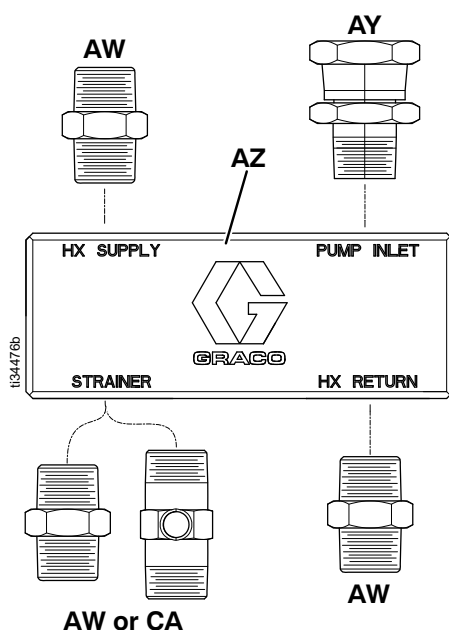
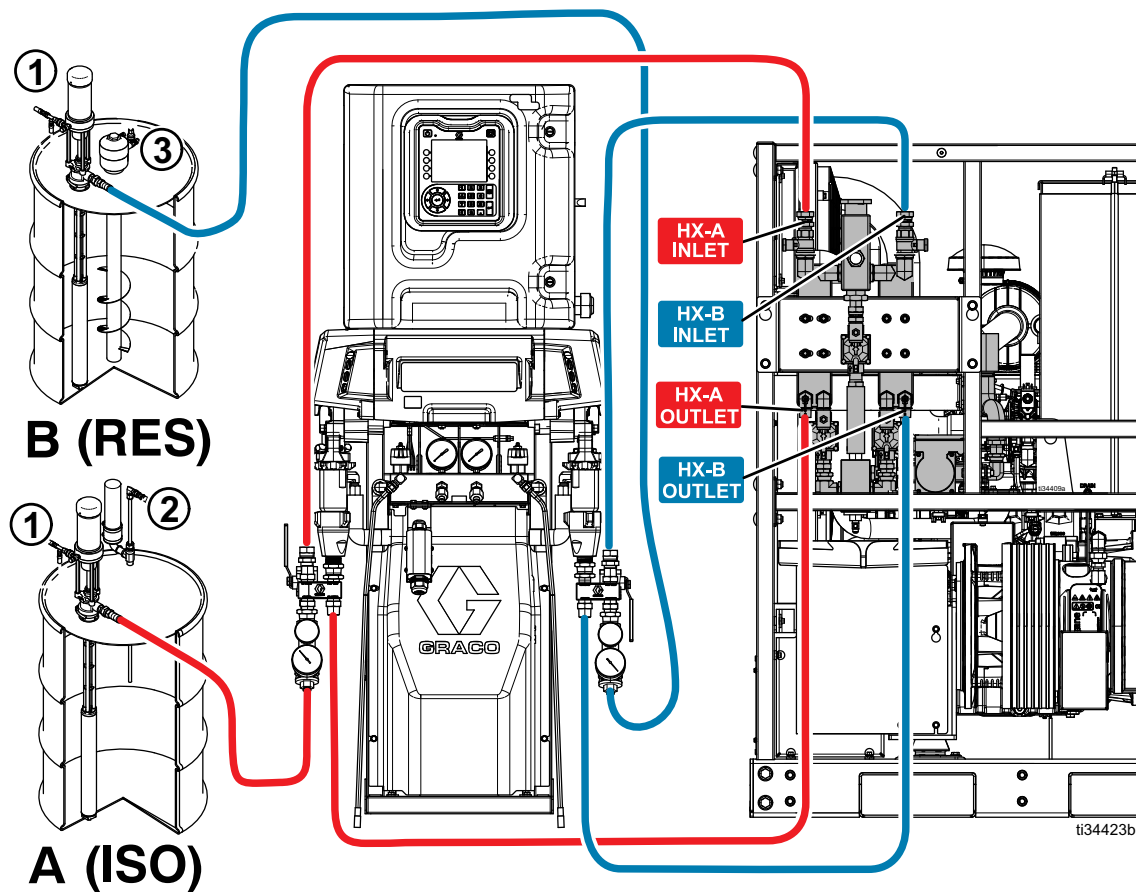

FIG. 18: Chemical Supply Manifold
FIG. 19: Supply Hose Connections
- Separate the Reactor 2 proportioner fluid inlet screen assemblies (BB) from the Reactor 2 pump lowers (BA). See FIG. 19.
- Mount the chemical supply manifolds (AZ) to the Reactor 2 pump lowers. Connect the manifold port to the appropriate pump lower using the loose fitting (AY) provided.
NOTE: The A-side and the B-side pump fittings must be installed on the chemical supply manifolds (AZ) before attaching to the pump lower (BA). See FIG. 18 and FIG. 19.
- Connect the Reactor 2 inlet strainer assemblies (BB) to the fitting (AW or CA) installed on the STRAINER port on the chemical supply manifolds (AZ). See FIG. 18.
- Install the A and B component supply hoses between the fitting (AW) on the HX SUPPLY port of the chemical supply manifolds (AZ), and the secondary heat exchanger A and B inlet ports (HX-A INLET, HX-B INLET). See FIG. 7 and FIG. 19.